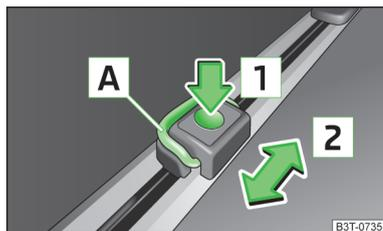

Fig. 118
- Press the button in the direction of arrow **1** » Fig. 118 and move the lashing eyelets to the desired position in the direction of the arrow **2**.